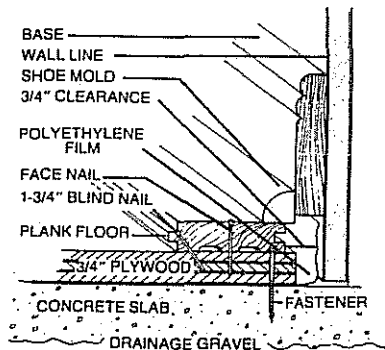

Fig. 1
CONCRETE - One successful method of installing 1/2" Continuous Strip® over on, or above grade concrete, is to provide a Plywood/OSB nailing surface over 4 mil polyethylene film. Your poly-film should be laid loosely over the entire floor with edges lapped 4" and lapped 4" up your wall (Fig. 1). Next, lay down 3/4" x 4' x 8' sheets of exterior grade plywood/OSB with 1/4" gaps between sheets and with your end joints staggered every 4 ft. Fasten down your subfloor with powder-actuated or hammer-driven concrete nails. Use a minimum of 18 nails per panel, starting at one end of the panel and working toward the opposite edge to be sure of flattening out the plywood and holding it securely.
5. Pre-drill and face-nail the first row of strips using a 7d flooring nail or equivalent every 8" along the groove side (Fig. 1).
7. Face nail the first row (Fig. 1) and next row of strips by hand. Pre-drill your nail holes at a 45 degree angle down through the nailing groove on top of the tongue. The next rows should blind nailed. Avoid bruising the wood by using a nail punch to drive the nails the last 1/8" into the tongue. Use 7d flooring nail or equivalent.